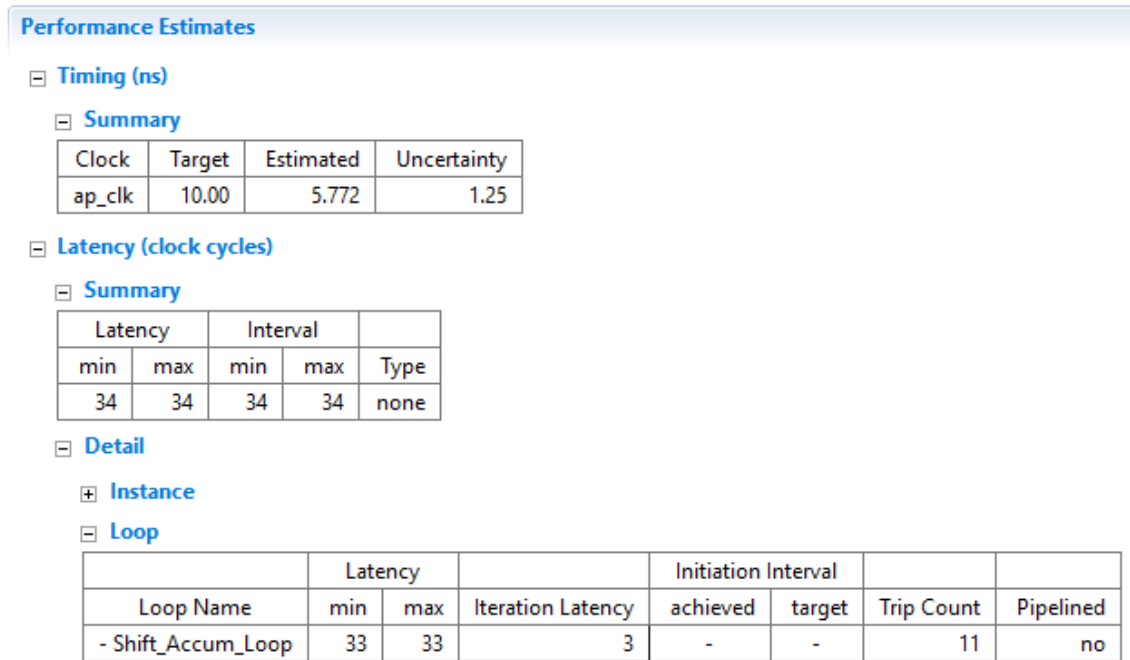

Figure 2-11: Performance Estimates
2. Click **Performance Estimates** in the Outline tab (Figure 2-11).
In the Performance Estimates pane, shown in Figure 2-11, you can see that the clock period is set to 10 ns. Vivado HLS targets a clock period of Clock Target minus Clock Uncertainty (10.00-1.25 = 8.75 ns in this example).